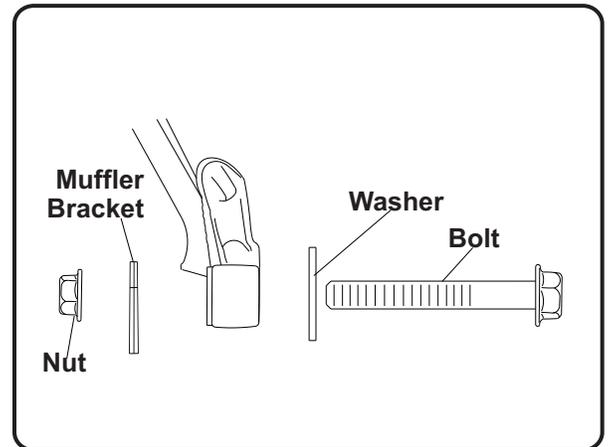

Fig. 5
- Using OEM muffler hanger hardware, secure Yoshimura muffler hanger to right passenger peg. ( Fig. 5 )